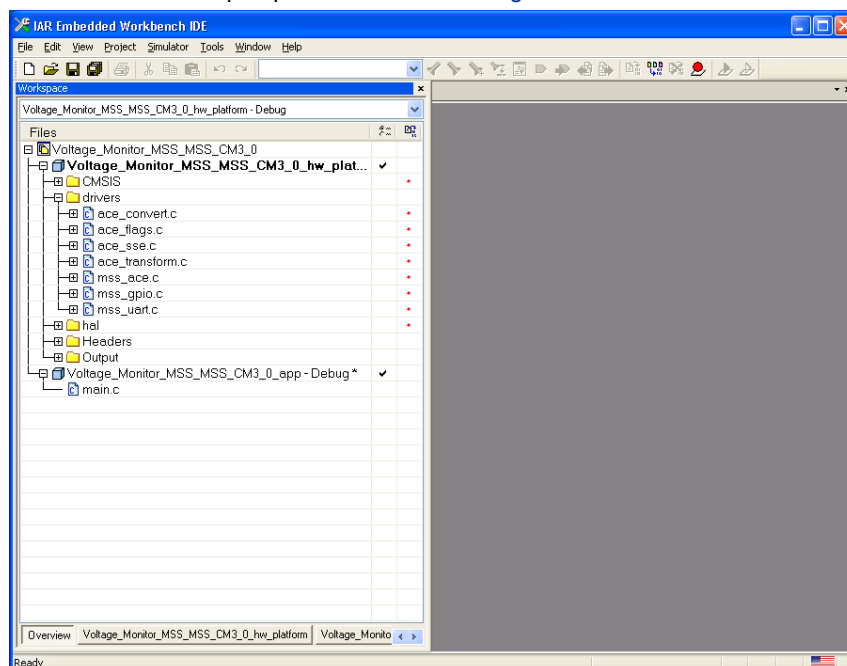

Figure 28 · IAR Workbench
2. Your IAR workbench perspective will look like Figure 28 · .